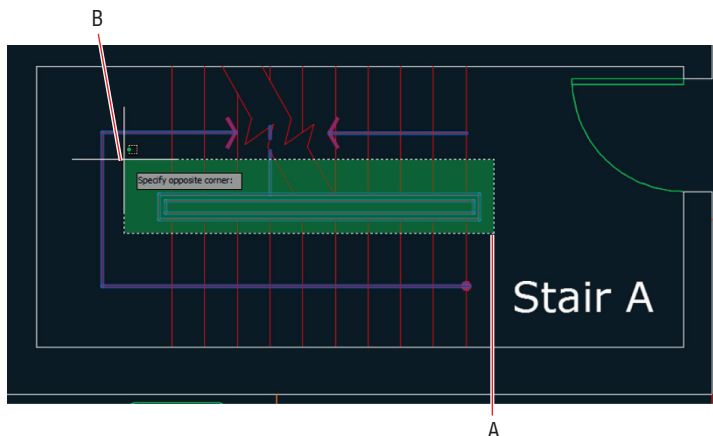

FIGURE 4.3 Drawing a crossing window to remove objects from the selection set
5. Click point A and then B, as shown in Figure 4.3. When you click the first point on the right (A), release the button, and move the cursor to the left (at B), a transparent green *crossing window* appears between the points. Whatever the green window crosses is selected. The crossing selection removes the handrail and two of the stair treads because the selection was made at the Remove objects: prompt.